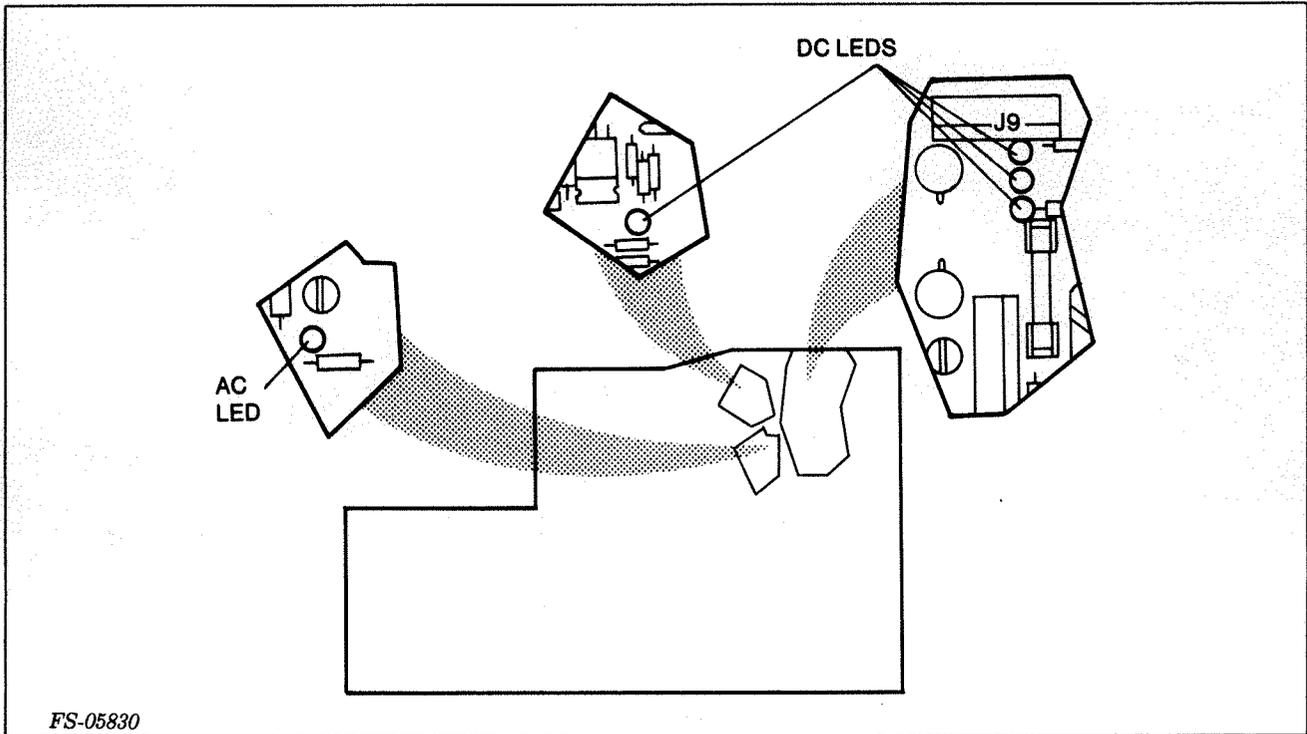

Figure 4-3. Power Supply PCB LED Locations
- The power supply PCB in the disk drive has five LEDs. See Figure 4-3. When the power switch is ON, all five LEDs light. Table 4-1 lists the voltage requirements for the J1 connector on the power supply PCB.